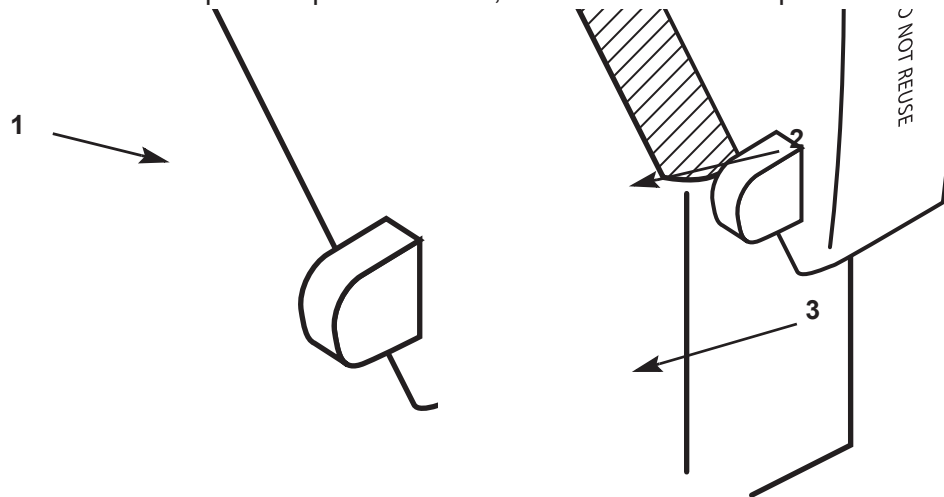

Figure 5: Replacing the Moisture Trap/Filter
1. Place the filter in the moisture trap as shown in figure 5 (1).
2. Slide the moisture trap into position (figure 5, 2) using the guide marks on the back of the monitor.
3. Press the moisture trap into position using the tab (figure 5, 3).